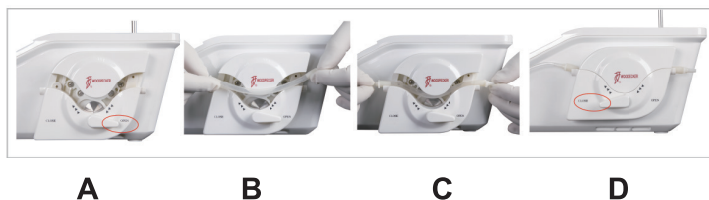

Fig.5
The foot switch of the Surgic Touch (LED) must not be activated when the door of the peristaltic pump open. (Fig.5—Ref.B).Moving parts could injure the operator.
- a) Open the door(Fig.5—Ref.A)as far as it will go.
- b) Position the tube in the impeller(Fig.5—Ref.B,C).
- c) Close the door completely(Fig.5—Ref.D).
The footswitch of the Surgic Touch (LED) must not be activated when the door of the peristaltic pump open. (Fig.5—Ref.A).Moving parts could injure the operator.